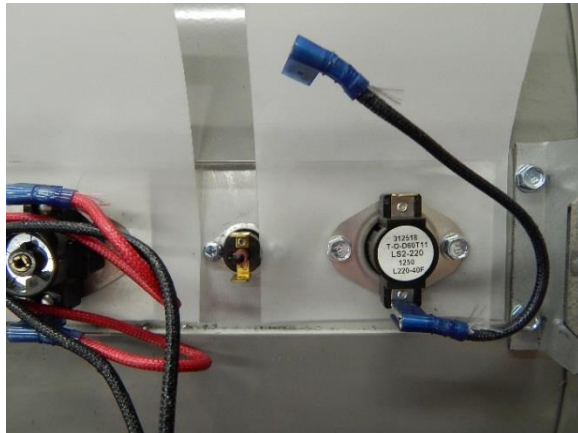

Figure 4: Disconnecting the high limits to remove
Step 8: Pull the high limit replace straight out and replace it with a new high limit of the appropriate temperature setting. See Figure 4 for an example of the disconnected high limits.